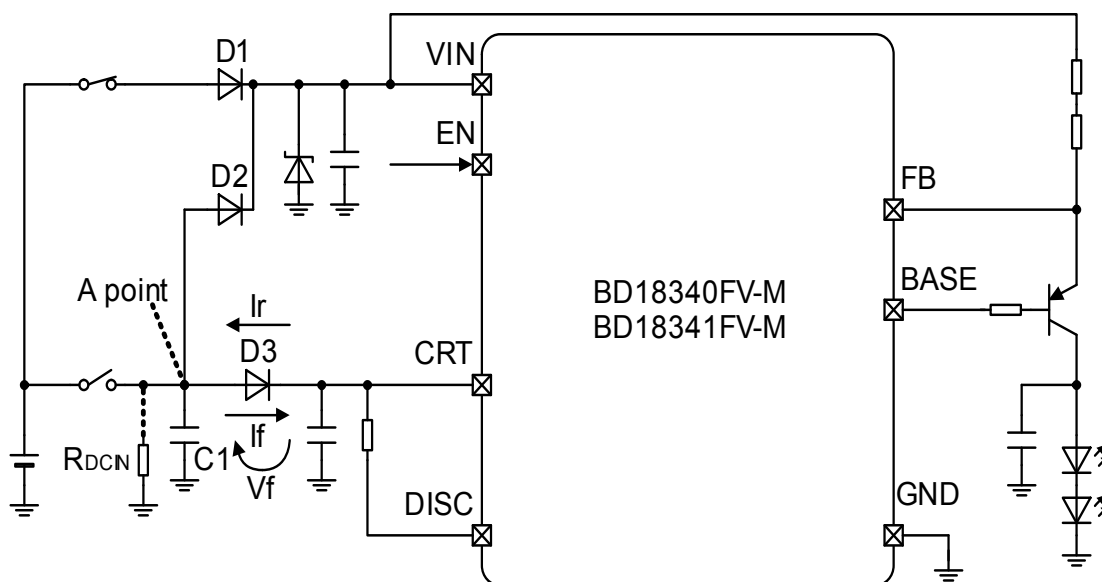

Figure 17. how reverse protection diode affects the CRT terminal rise/fall time
- ① During the PWM dimming operation mode, the A-point on Figure.17 becomes Hi-Z